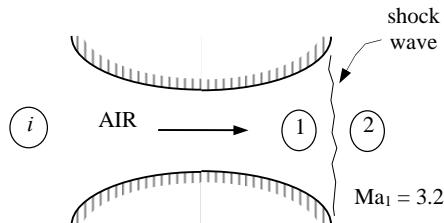

Figure Q4[a]
- Q4. [a]** Air flowing steadily in a nozzle experiences a normal shock at a Mach number of $Ma = 3.2$ as in Figure Q4[a]. If the back pressure and temperature of air are 58kPa and 270K, respectively, upstream of the shock, calculate the pressure, temperature, velocity, Mach number and stagnation pressure downstream of the shock. Compare these results to those for helium under-going a normal shock under the same conditions. Given the properties of air are $k = 1.4$ and $R = 0.287 \text{ kJ/kg}\cdot\text{K}$, and the properties of helium are $k = 1.667$ and $R = 2.0769 \text{ kJ/kg}\cdot\text{K}$, where k is the specific heat ratio and R is the specific gas constant.